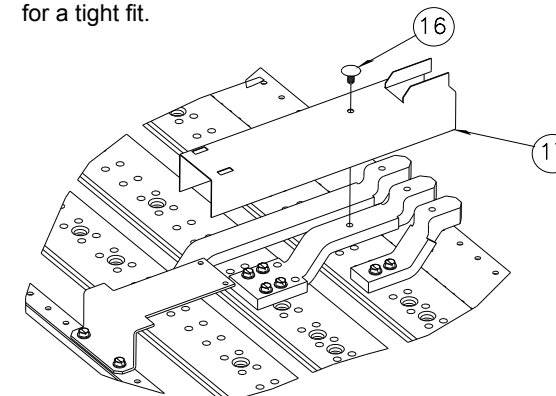

Figure 5
7. Reference fig. 5 - Installing the barrier. Insert the plastic tree rivet (item 16) through the 0.25" hole in the barrier (item 17) and then through the medium phase connector (item 13) orienting as shown in fig. 5 and push for a tight fit.